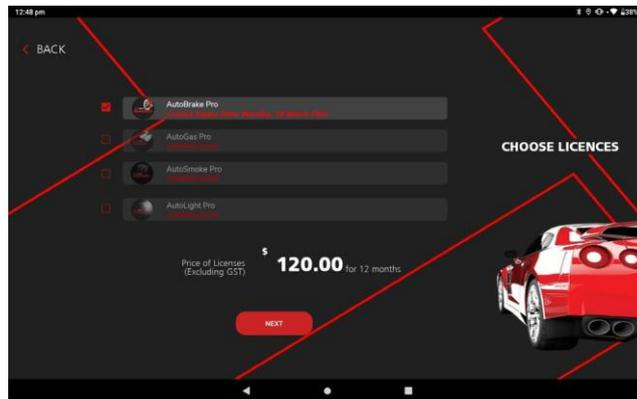

Figure 17
Step 3: Choose the License (AutoBrake Pro). It will display the price of the License = \$120 for 12 Months (Figure 17).